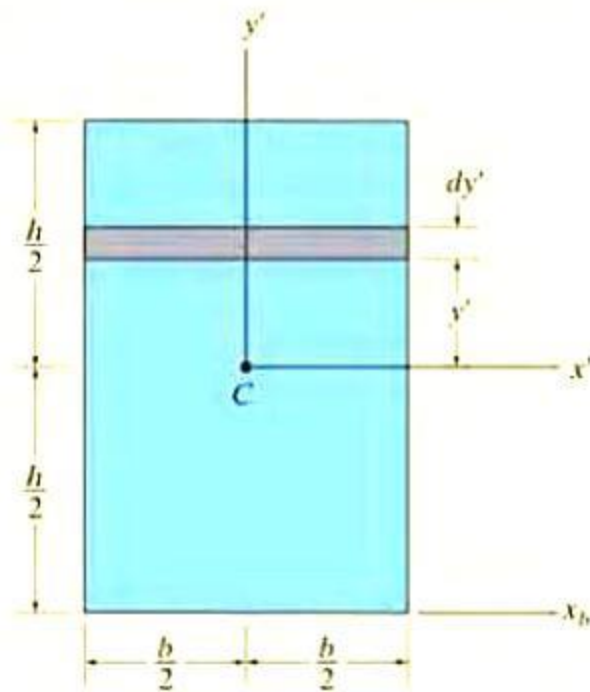

Figure Q7c Rectangular shape
- (b) With reference to Figure Q7c determine centroid about the x' and y' axis. [8]